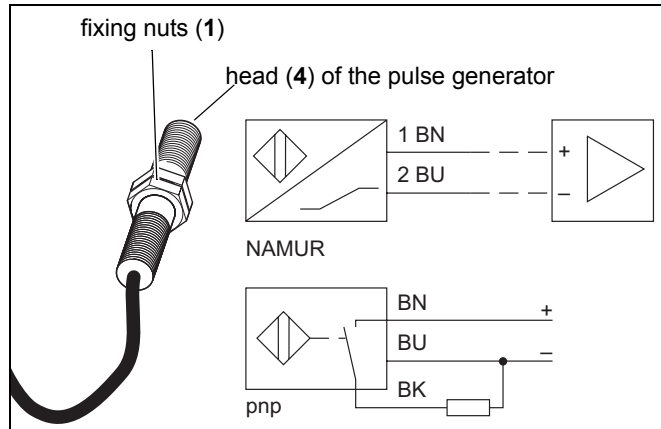

Fig. 5-1: Pulse generator of the DG type series
The pulse generators are to be so installed that one or several metal parts (Fe metals, if possible) can rotate past the head (4) of the pulse generator within the response distance (see fig. 5-1). One pulse is generated per metal part. Pulse multiplication via symmetrical arrangement of several metal parts is recommended for low rotational speeds. The metal parts should at least have the dimension of the head (4) of the pulse generator, and the distance between any two parts should not be below the double diameter of the pulse generator.
The pulse generator is fastened with two fixing nuts (1) or by means of the enclosed plastic clip (2) and the weld-on plate (3) (see figs. 5-1 and 5-2). The pulse generators are also suited for a flush fitting. They can be screwed directly into a thread.
3. Connect the pulse generator in accordance with the wiring diagram (see fig. 5-1).